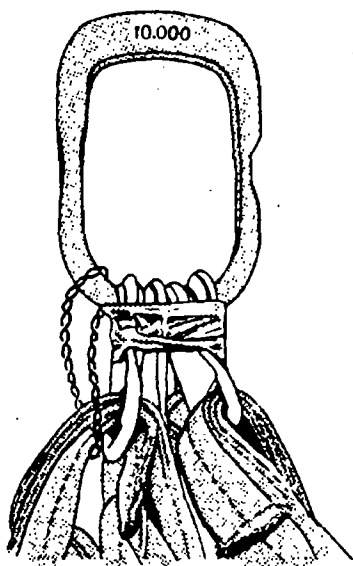

Figure 7-8. Taped Hooks
Step 5 - After connecting all four hooks to the apex fitting, tape or tie the four hooks together to prevent them from coming unhooked when the apex is laid down (Figure 7-8).